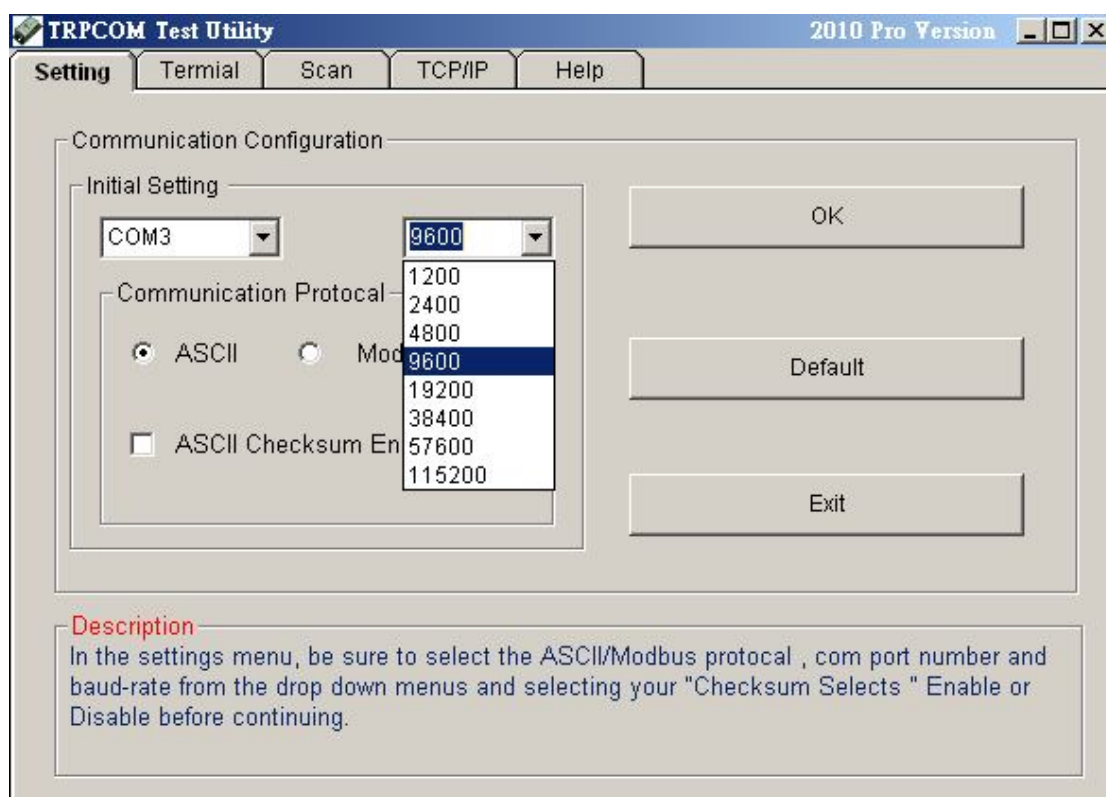

Figure 1
1.The “Setting” function is for user to initiate the software to set the Com Port from 1 to 20 and setting the Baud-Rate from 1200 to 115200,Checksum Enable or Disable. ...See Figure 1